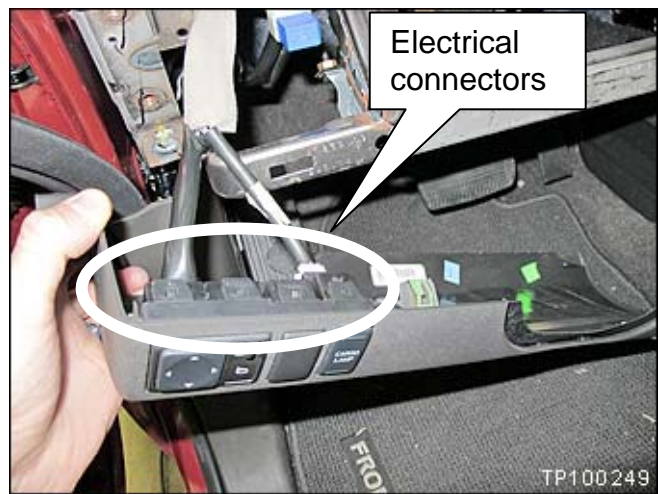

Figure 4
5. Disconnect the electrical connectors shown in Figure 4.